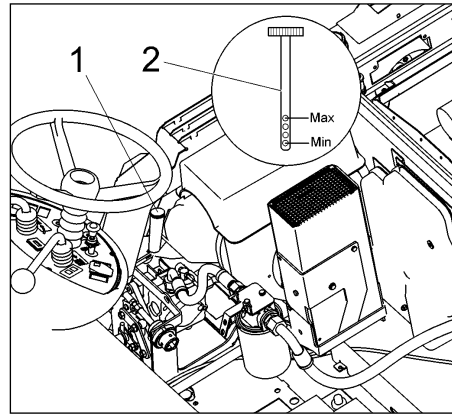

Fig. 23
- Pull plug (Fig. 23/1) with dipstick.